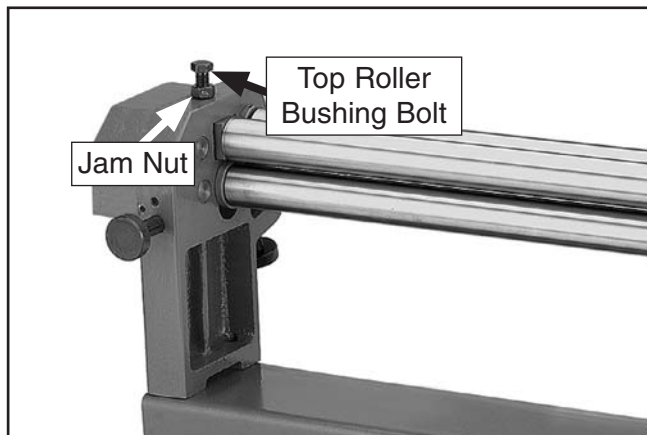

Figure 29. Hex bolt and jam nut.
1. Loosen the hex bolt and jam nut that secure the top roller at the gearbox (**Figure 29**).